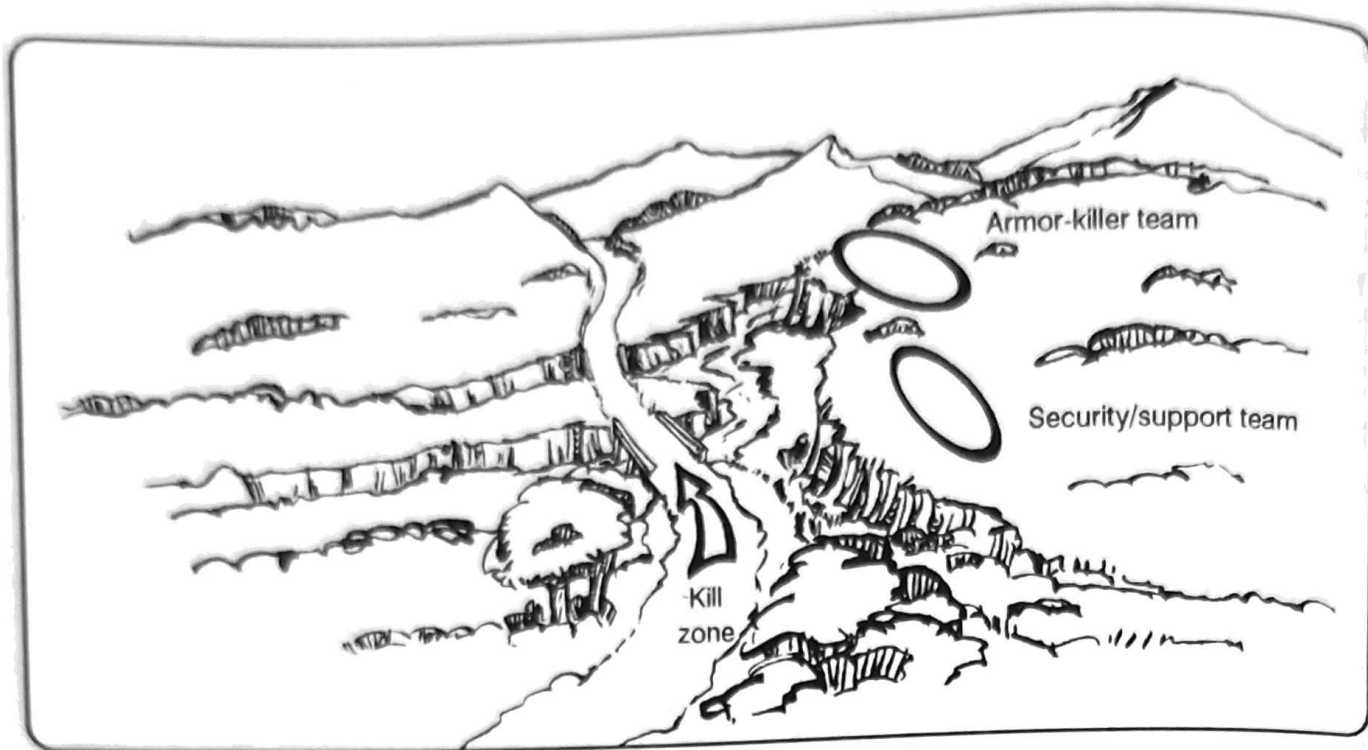

Figure 3-28. Employment along an armor avenue of approach.
- To ensure mutual support between platoons. (See Figure 3-28.)